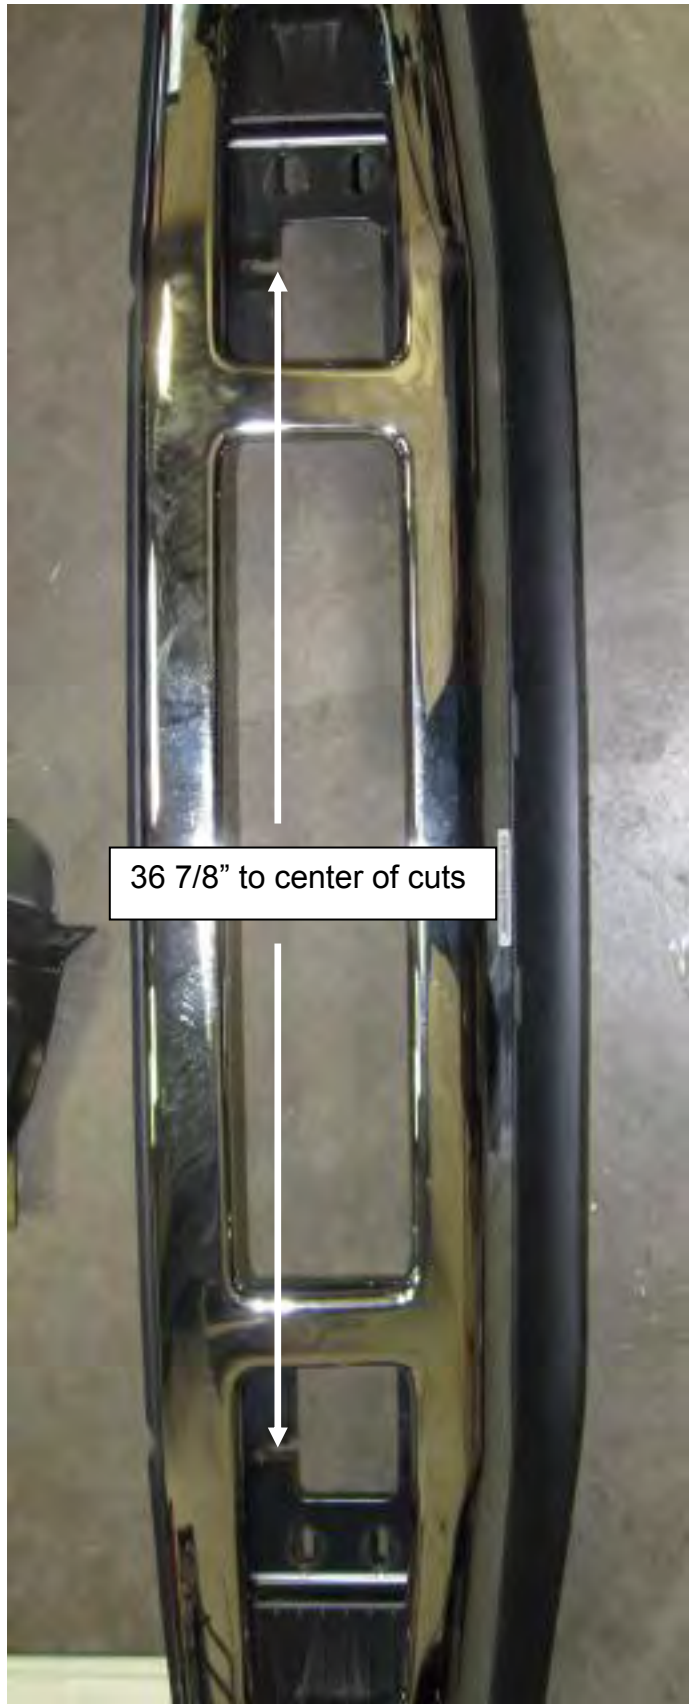

Figure 4: Cut slots in bumper brackets
5. Trim slots in the factory bumper brackets to install the front bumper. See **Figure 4 and 5**. Use a drill motor with $\frac{1}{2}$ " bit and saw or use a cutting wheel or grinder to create the slots. The center of the slots should be $36 \frac{7}{8}$ " apart.